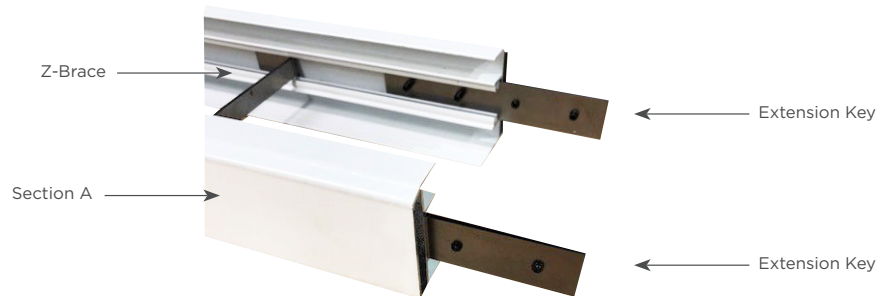

Figure 3
- Insert two extension keys approximately halfway into frame section A as shown in figure 3. Tighten screws on each side with a 1/16" Allen wrench.